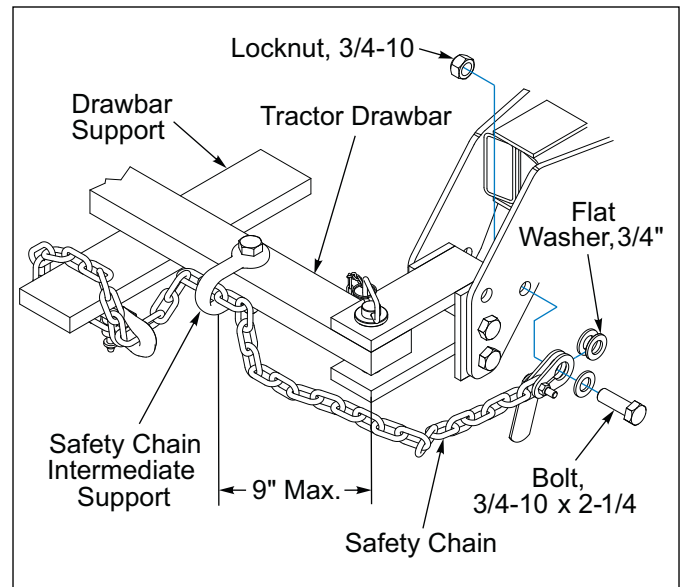

Figure 3-6: Safety Chain
5. Attach safety chain to tractor allowing plenty of movement for turning both directions. The safety chain should latch securely to prevent it from coming loose. See **Figure 3-6**.